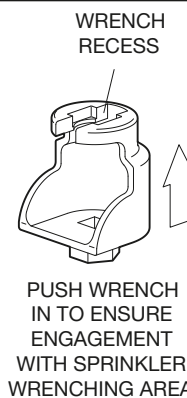

FIGURE 11
Step 2B. Tighten the sprinkler into the sprinkler fitting using only the W-Type 7 Recessed Sprinkler Wrench, refer to Figure 11. With reference to Figures 1, 2, 3, and 4 apply the W-Type 7 Recessed Sprinkler Wrench to the sprinkler wrench flats.
Step 3E. Tighten the sprinkler into the sprinkler fitting using only the W-Type 7 Recessed Sprinkler Wrench, refer to Figure 11. Apply the W-Type 7 Sprinkler Wrench to the wrench flats shown in Figure 5 and Figure 6.